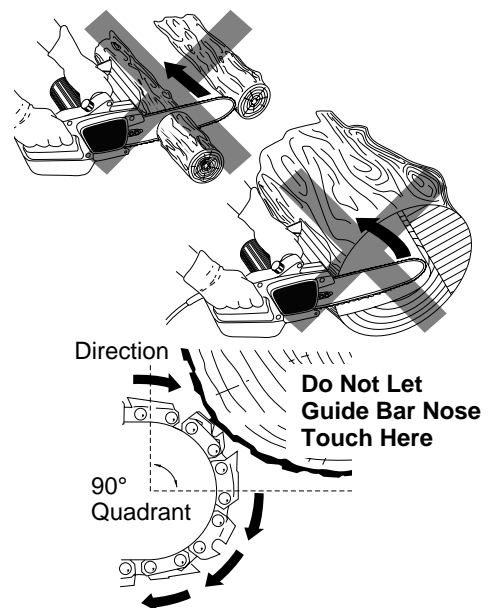

Figure 1 - Kickback Hazard Example. Do Not Let Nose of Guide Bar Touch Object While Chain is Moving
- Do not let guide bar nose touch anything when chain is moving (see Figure 1).